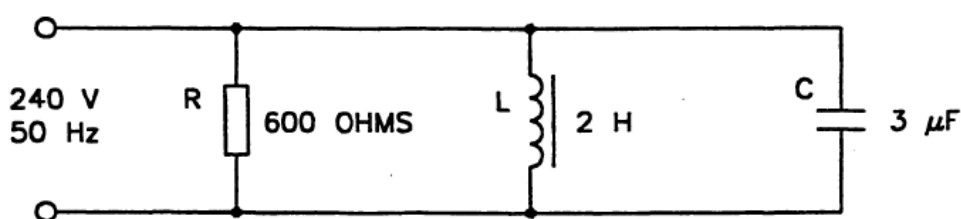

Figure 7 – RLC parallel circuit
41. If a circuit contains resistance (R), inductance (L) and capacitance (C) connected in parallel, the current in the inductor and the current in the capacitor have opposite polarities (they are 180° out of phase with each other), so one tends to cancel the other.
42. Figure 7 represents an RLC parallel circuit in which the component values are: